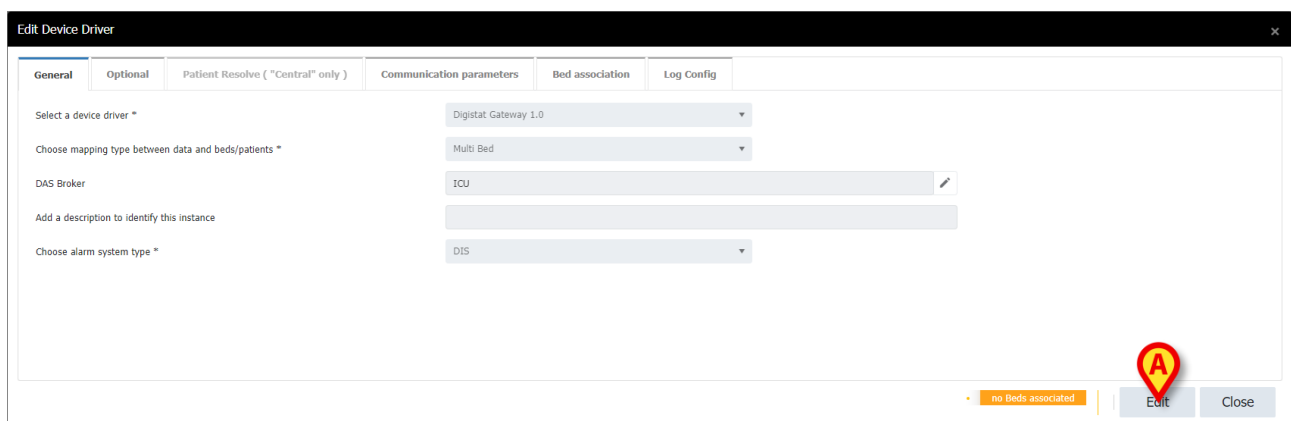
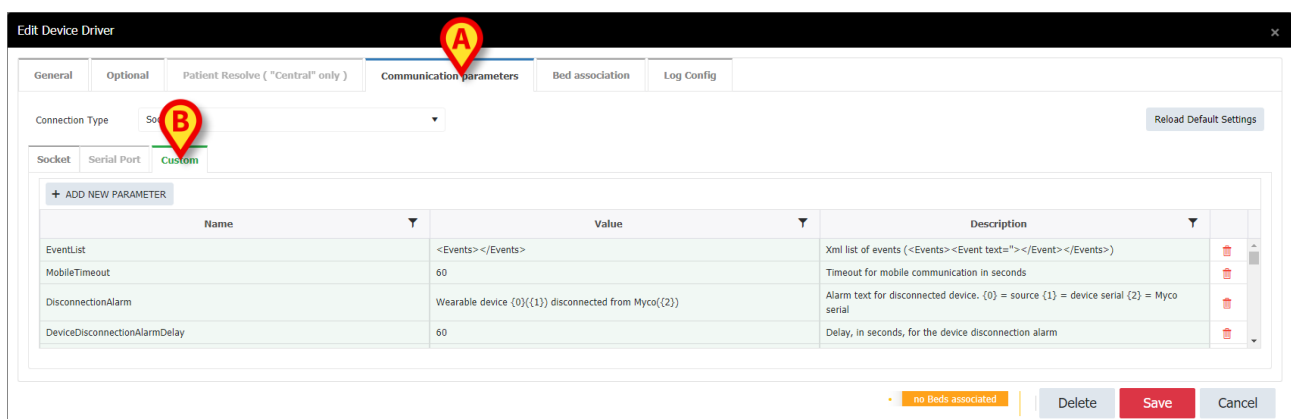

Fig 24
Fig 25
The **Edit device driver** window opens (Fig 24).
- Click the **Edit** button (Fig 24 **A**). Select the “Communication parameters” tab (Fig 25 **A**) and then the “Custom” tab (Fig 25 **B**).